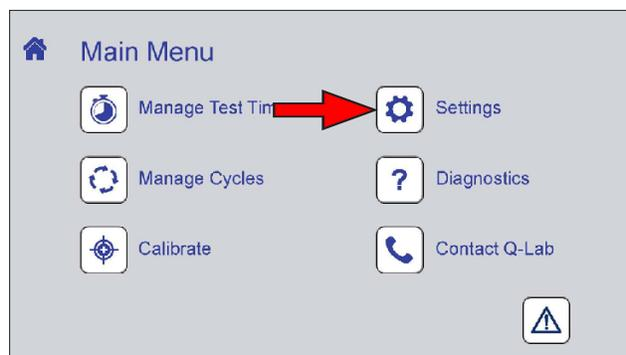
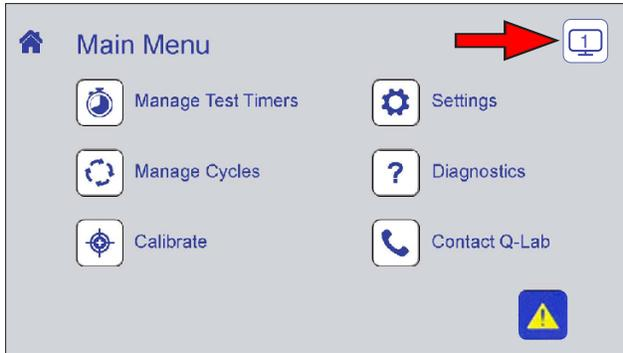

Figure 11.8a: Touch the Settings icon on the Main Menu screen to display settings controls.
Figure 11.8y: Main Menu in single screen mode. Touch the screen icon.
- On the Main Menu screen touch the Settings icon (Figure 11.8a) to display the Settings screen.
- QUV models equipped with two (2) touchscreens (QUV/se, QUV/cw, QUV/spray, QUV/spray/rp, and QUV/uvc) can be operated using just one screen.
- o A button appears in the upper right corner of the screen to toggle the remaining screen between Main Menu and Status displays (Figure 11.8y through Figure 11.8ab).
- The QUV/basic is equipped with one (1) touchscreen display that can be toggled back and forth between the Status Screen and the Main Menu Screen (see Section 11.2).
Figure 11.8aa: Status Screen in single screen mode. Touch the screen icon.
Figure 11.8ab: Touch the Menu Screen icon to display the Menu Screen.
- See Figure 11.8ac for a complete list of QUV diagnostic numbers, messages, and descriptions.
- Not all diagnostic messages appear in all QUV models, as noted in the Figure 11.8ac table.